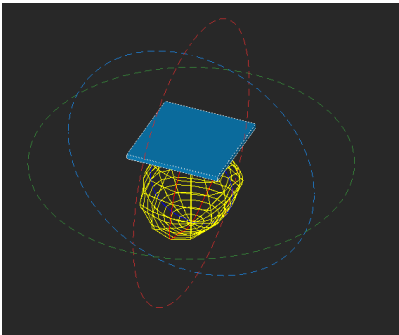
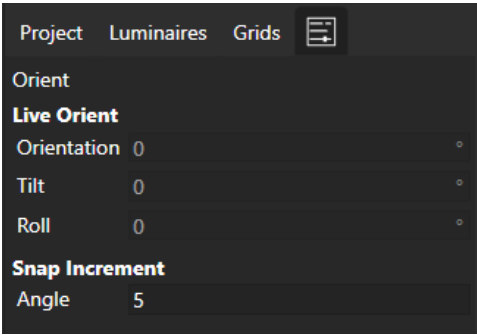

Figure 13. Explode Arrangements
Figure 14. Explode Arrangements
- To precisely orient a luminaire, use the Orient command found in the luminaire properties. When enabled, manipulate the 3 axis of rotation to modify the luminaires. (Figure 13) Use the command properties for precision control. (Figure 14)